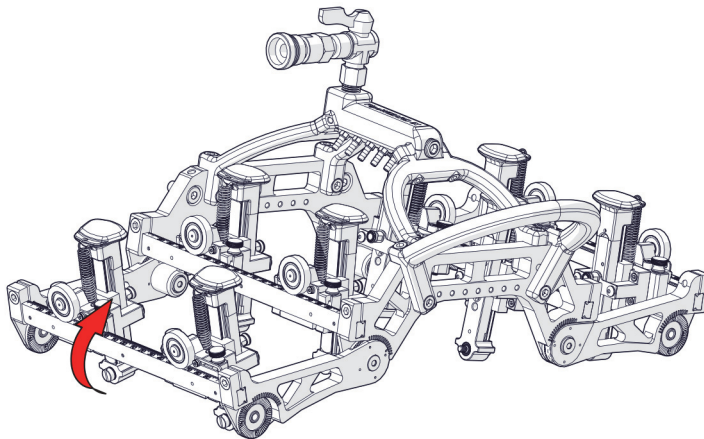

Figure 1-52 Adjusting the probe module angle
5. Adjust the angle of the probe module as required (see Figure 1-52 on page 62).